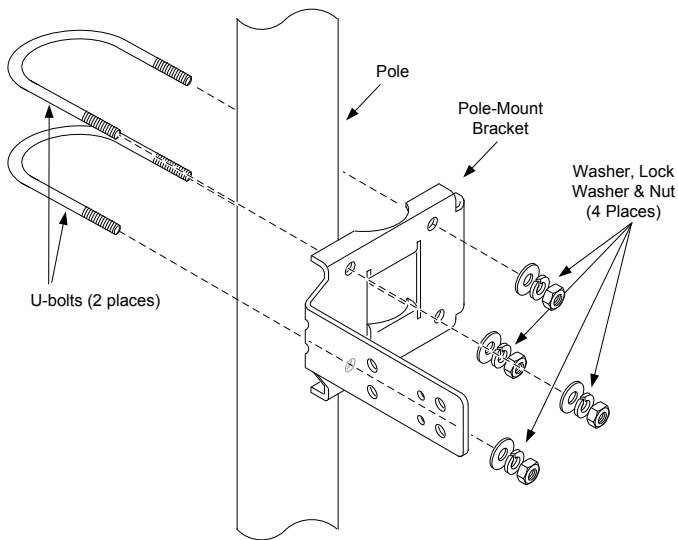

Fig. 1: Pole Mount Bracket
1. Attach the pole mount bracket to the top of the 2" pipe with the U-bolts. Use the provided hex nuts, flat washers and spring load washers to tighten the pole mount bracket to the 2" pipe (Fig. 1).